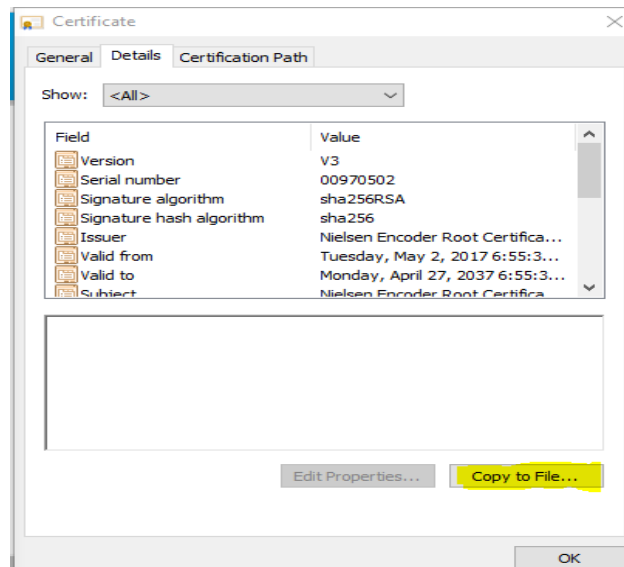

Figure 65: Copy to File
4. On the **Certificate** dialog box (Figure 65), select the **Details** tab then click **Copy to File**.
10. On the **Certificate** dialog box (Figure 65), click **OK**.